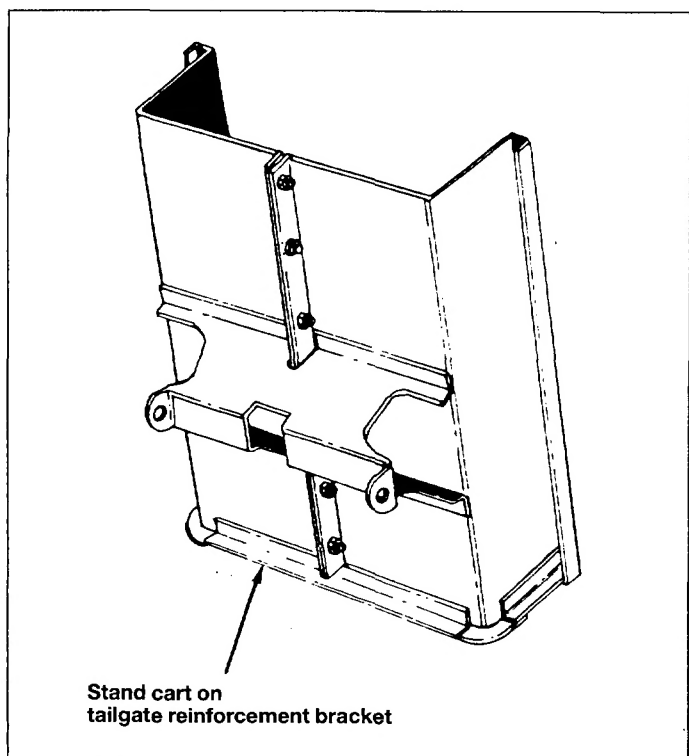

Fig. 7
12. Lift the cart up and stand on tailgate reinforcement bracket and proceed with assembly steps 13 through 21. See figure 7.